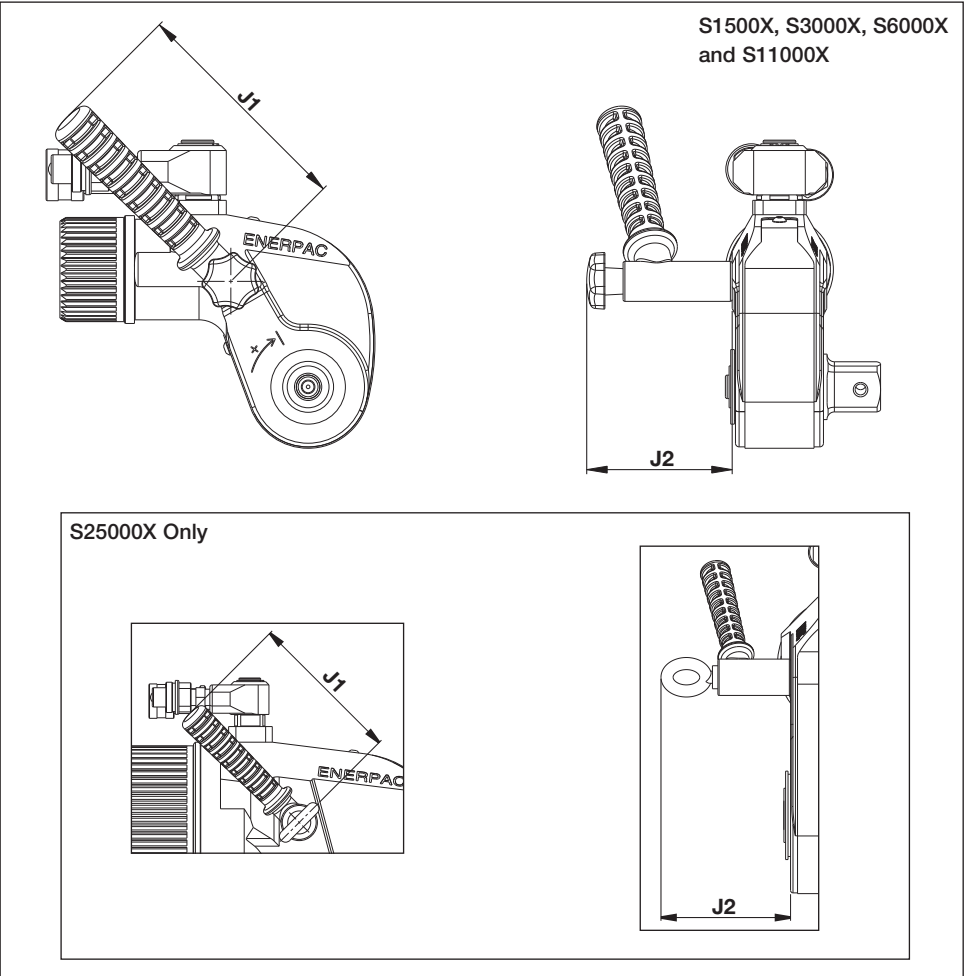

Fig. 35
6.10 Dimensions and Specifications, SWH Series Angled Positioning Handle (Fig. 35)